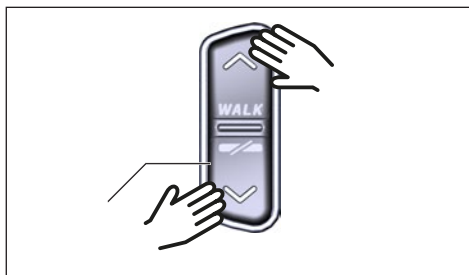

Fig. 6: Select assist mode on the HPR Remote V02
- With a **short** press on the button UP of the Remote (see Fig. 6) you increase the assist mode.
- With a **short** press on the button DOWN of the Remote (see Fig. 6) you decrease the assist mode.
- With a **long** press (>3 s) on the DOWN button of the Remote (see Fig. 6), you switch off the assist from the drive system.